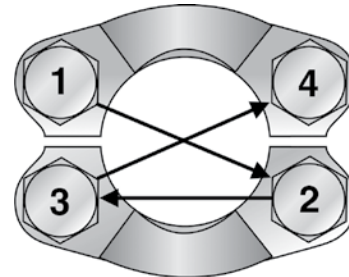

Fig. S10 – Flange Bolt Tightening Sequence
6. Torque bolts in diagonal sequence (see Fig. S10) in small increments to the appropriate torque level listed in Table S6 or S7 below.